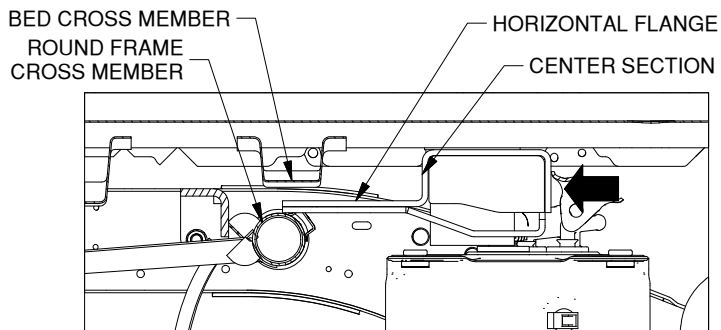

Figure D3: Cutaway view looking at center section from passenger side.
- 2. Position center section.** Move the center toward the rear of the truck by passing the horizontal flange of the center section between the round frame cross member and the bed cross member directly above it. The raised portion of the center section should be under the 4" hole cut into the bed, see Figure D3.